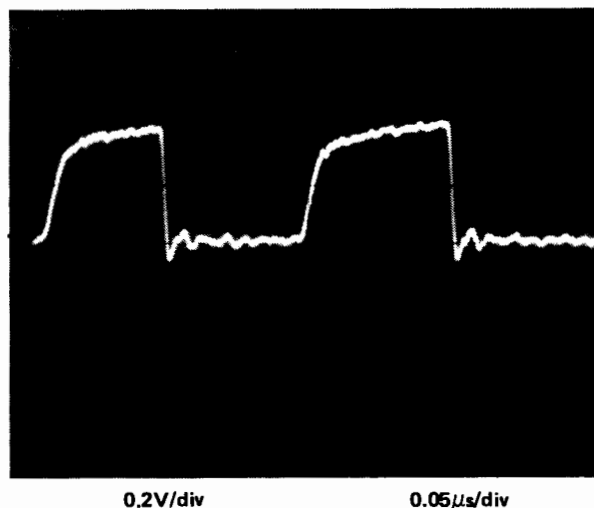

Figure G1-3 Start of Waveform of Receive Frame
12. Compare the waveform on the oscilloscope to Figure G1-3.
15. Compare the waveform on the oscilloscope to Figure G1-3.